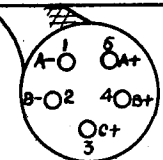

Fig. 1. Sender and receiver front panels.
8. The controls are shown in Fig. 1. The ON-OFF SWITCH S2B breaks the 3 V L.T., the 150 V H.T., and the 12 V supplies, from both the sender and receiver units. The AERIAL TUNING dial is associated with the variable condenser C16A, which controls the tuning of the output circuit of the power amplifier, in conjunction with the AERIAL SWITCH. The AERIAL SWITCH selects the correct tapping point on the inductance coil of the power amplifier. The M.O. TUNING dial is connected to a two-ganged condenser C17A, C17B, which controls the tuning of the master oscillator circuit, and is the main control for the setting of the emitted frequency.